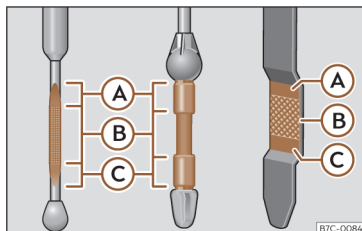

Fig. 231 Engine oil dipstick.
- Then pull it out again and check the oil level >>> Fig. 231. Top up with engine oil if necessary.
- When the oil level reaches at least zone >>> **Fig. 231 B**, carefully screw on the engine oil filler cap >>> .